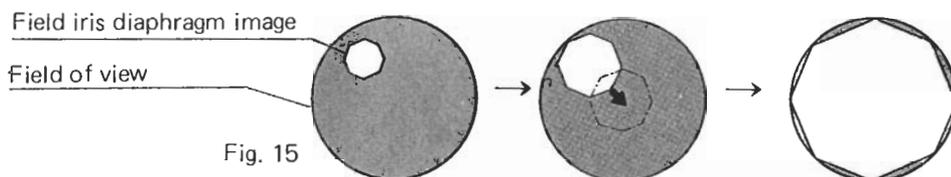

Fig. 15
- 4) Widen the diameter of the iris diaphragm progressively. If the polygonal image of the iris diaphragm becomes inscribed in the field it means that the field diaphragm is centered. (Fig. 15)